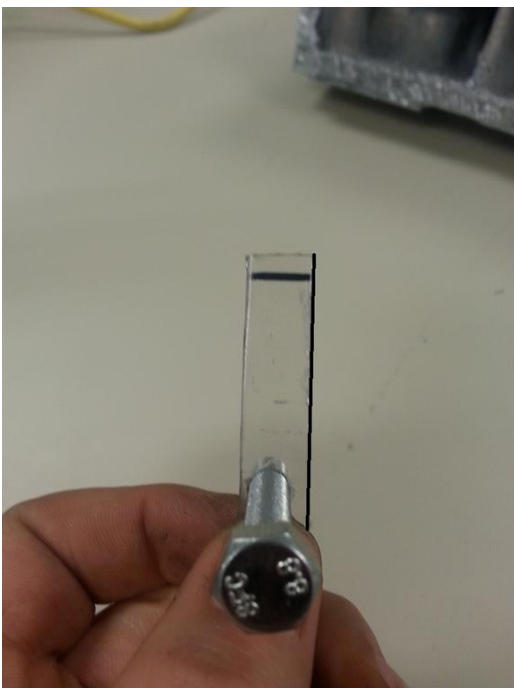

Figure 1: Flywheel Timing Tool
- 4) With the bolt-free end facing away, mark the right edge of the plastic with a marker, as shown in **Figure 1**